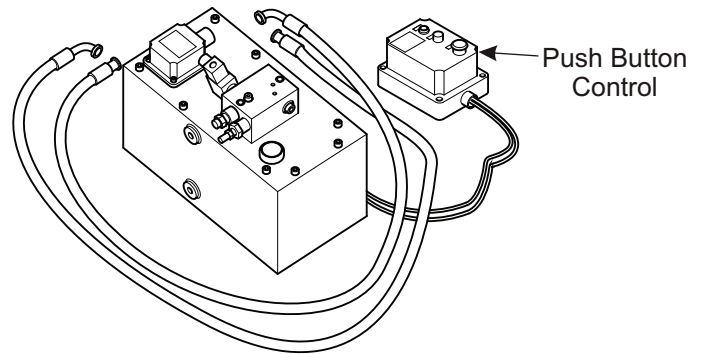

FIGURE 15a
- To raise and lower the deck use the push button controls on the EHP Model. (See Figure 15a)